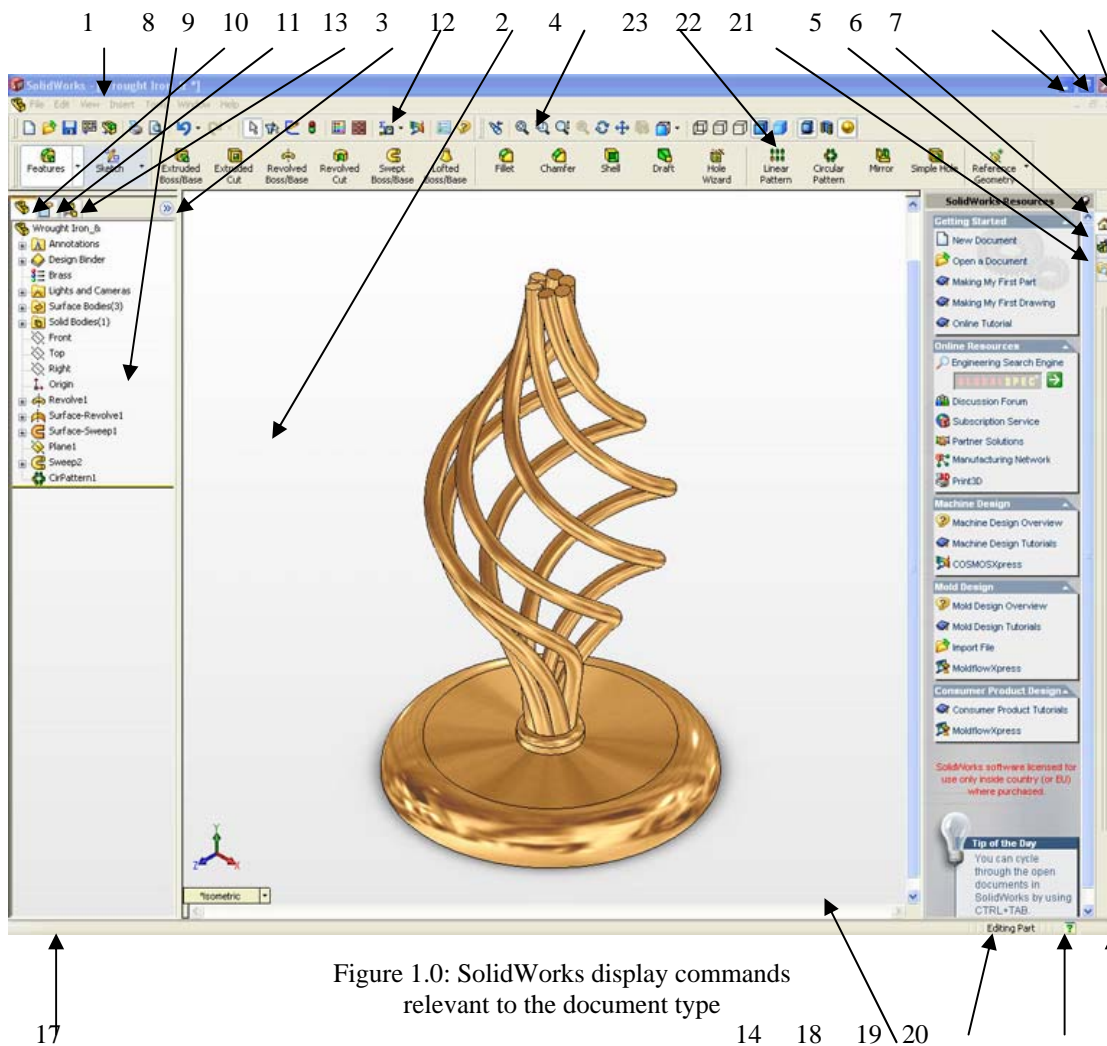

Figure 1.0: SolidWorks display commands relevant to the document type
As your first step to mastering the use of solid works we are going to review the user interface or the SolidWorks window (See Fig 1.0 page 2). To begin, using the left mouse button double click on the SolidWorks icon on the PC desktop screen to open the program. If there is no icon visible the program can be started through Start - All Programs – SolidWorks 2006. You can access commands in SolidWorks using menus, toolbars and the mouse. The SolidWorks interface is dynamic in that different toolbars and menus appear depending on the active document type.
The Main elements of the SolidWorks user interface are as follows (see Figure 1.0 for the corresponding item numbers):
15. Pointer: Indicates the position of the mouse and lets you select items within the user interface (not shown on Fig 1.0)
16. Tool tip: A pop up informational message about a feature or function. It appears when you hover the pointer over an object. It disappears after a few seconds (not shown on Fig 1.0).